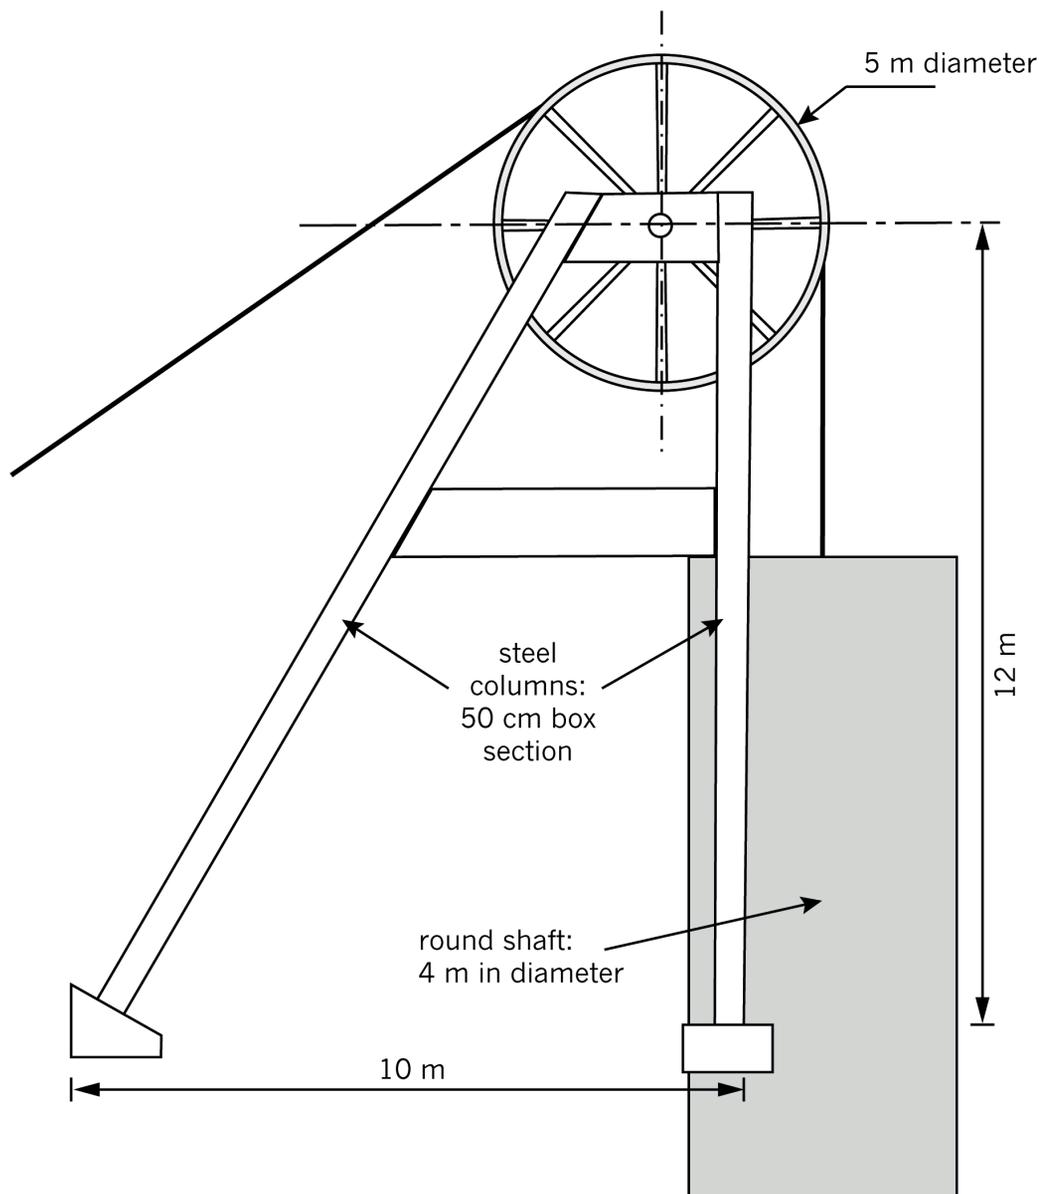

Figure 5: A working drawing of a head frame
Look at Figure 5. It is an example of a working drawing for a small head frame design.
1. Draw your team's design of a head frame on square grid paper. Use Figure 5 to help you. Show all the dimensions for the main parts of your head frame design.
Figure 5 repeated